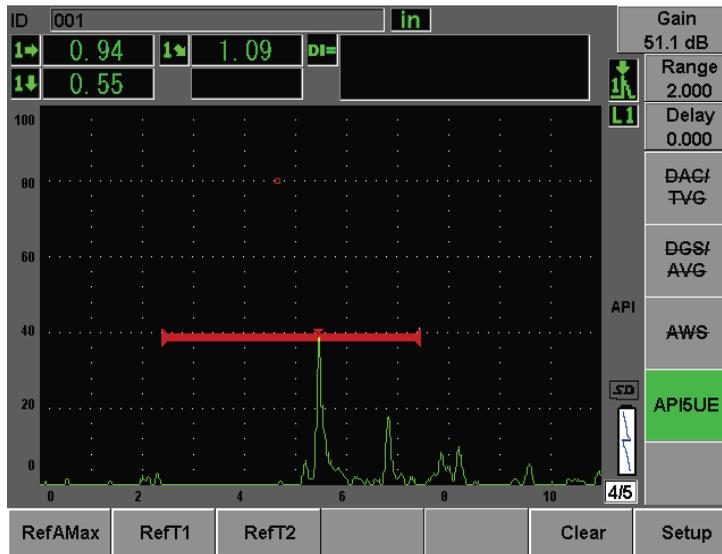

Figure 12-27 Storing the  $T_2$  point
9. Press **[P3] RefT2** to collect the 6 dB drop position of the trailing peak and assign this value as  $T_2$  (see Figure 12-27 on page 258).